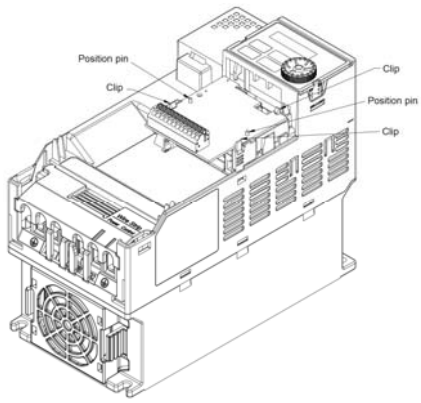

Figure 8-4
4. Assembling the adapter/ option card: As shown in the figure 8-4, have the terminal block of the adapter/ option facing up, aim the two holes of the adapter/ option card to the position column and press downward so that the three clips are engage the adapter/ option card.